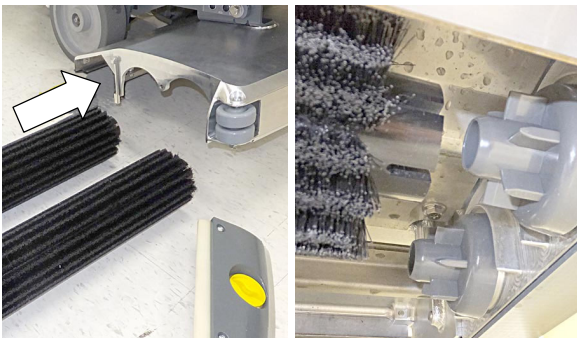

FIG. 24
4. Slide the brushes into the scrub head and connect the slotted ends of each brush into the drive hubs (Figure 24).